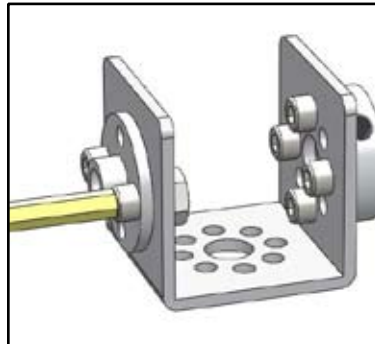
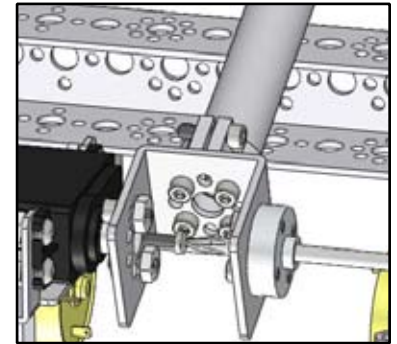

Figure B15b
Figure B16
- 5) Attach any structural element – such as a tube – to the top of the 32 mm channel piece at this time. On the side opposite the set screw axle hub, attach the servo horn to the outside of the 32 mm channel piece with four 3/8" BHCSs and kep nuts (Figure B15b). Attach the side with the horn to the servo on the bracket and secure with the servo screw (Figure B16).